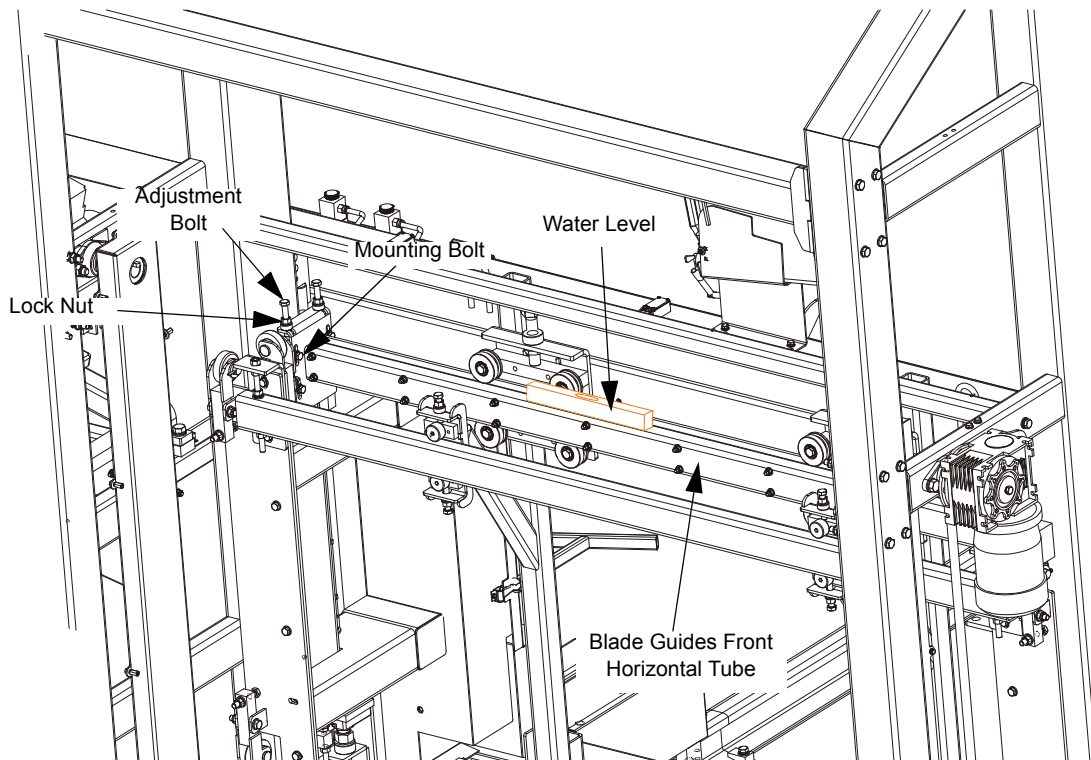

FIG. 6-9
**See Figure 6-9.** Place a water level on the blade guides front horizontal tube. The tube must be leveled. If adjustment is necessary, loosen the mounting bolts and lock nuts. Use adjustment bolts shown below to level this tube. Tighten lock nuts and mounting bolts when adjustment is done.